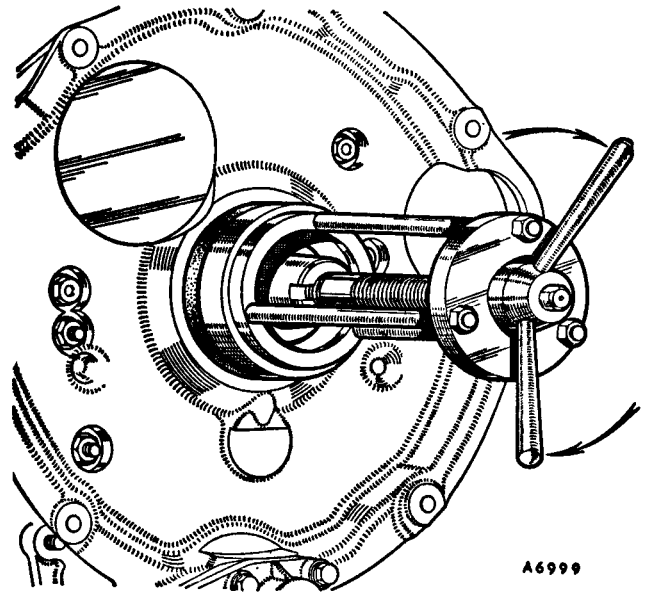

Fig. Aa.22
8. Assemble the new seal together with Service tool 18G 1068 B into position (see Fig. Aa.22).
9. Screw in the wing nut of the tool until the seal is pressed in to the depth of the measurement (see item 5).